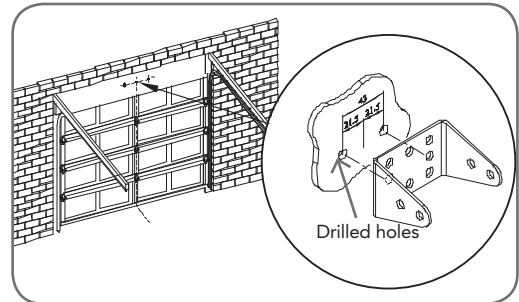

fig 15
- Determine the centre point on the wall above and on top of the door. Draw two lines extending 21.5mm from each side of the centre point. (**Fig. 15**)
- Centre the bracket over the intersection of these two lines. Mark centres for at least two holes (**Fig. 15**).